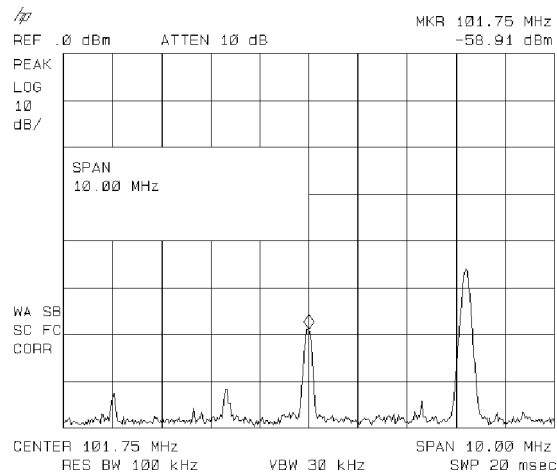

Figure 6-16. Low-Level Signal
5. Reduce the span to 10 MHz. Press **(SPAN)**, and then use the step-down key **(⇩)**. See Figure 6-16.